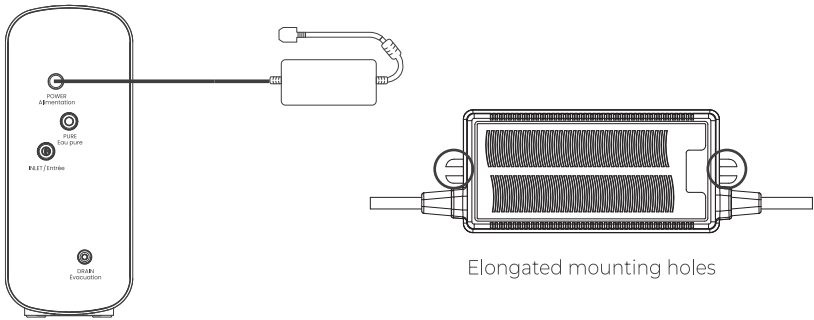

Figure 15
**Connect Power Adapter:** Insert the DC head of the power adapter into the "POWER" port at the back of the housing (**Figure 15**).